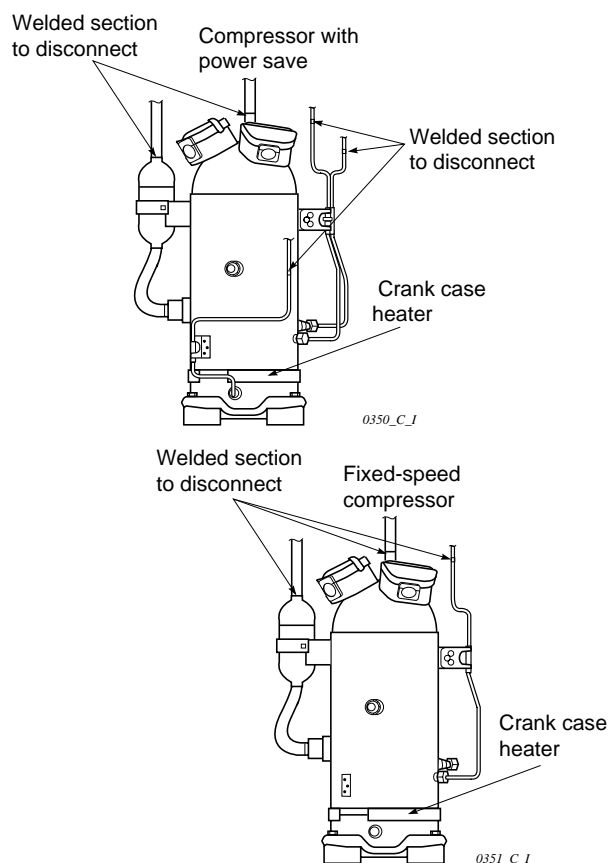

Fig. 3
- (12) Prepare to remove the welded section in Fig. 3.
- (13) Disconnect the welded section shown in Fig. 3.
- (14) Pull the compressor forward.